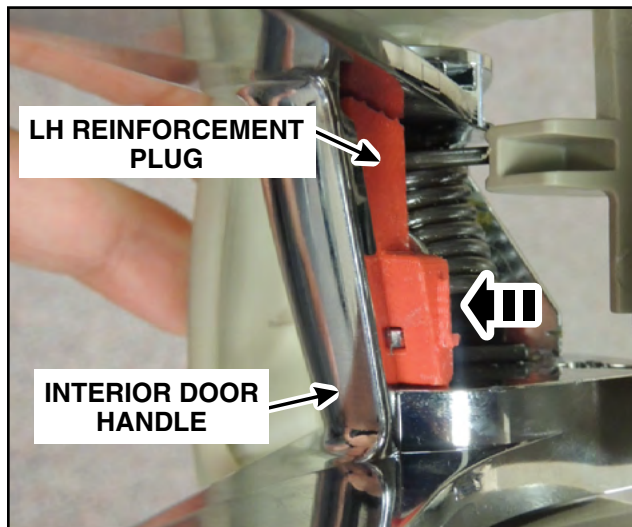

FIGURE 8a
8. Hold the interior door handle to its full open position and install a return spring retainer wall reinforcement plug. See Figure 8a.